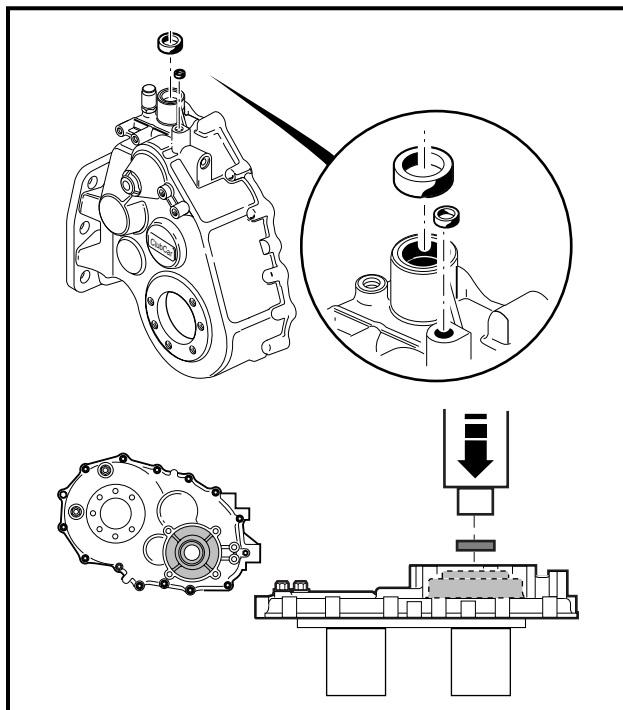

Figure 5-39 Install Seals
2. Put a light coating of clean transmission oil on the outside edge of the seal to make installation easier. Press two new oil seals (13 and 22) (**Figure 5-3, Page 5-3**) into the left (driver) side case. Use an oil seal installation tool (CCI P/N 1014160) to install a new oil seal (55) (**Figure 5-11, Page 5-7**) into the right (passenger side) case. **See also Figure 5-39, Page 5-21.**